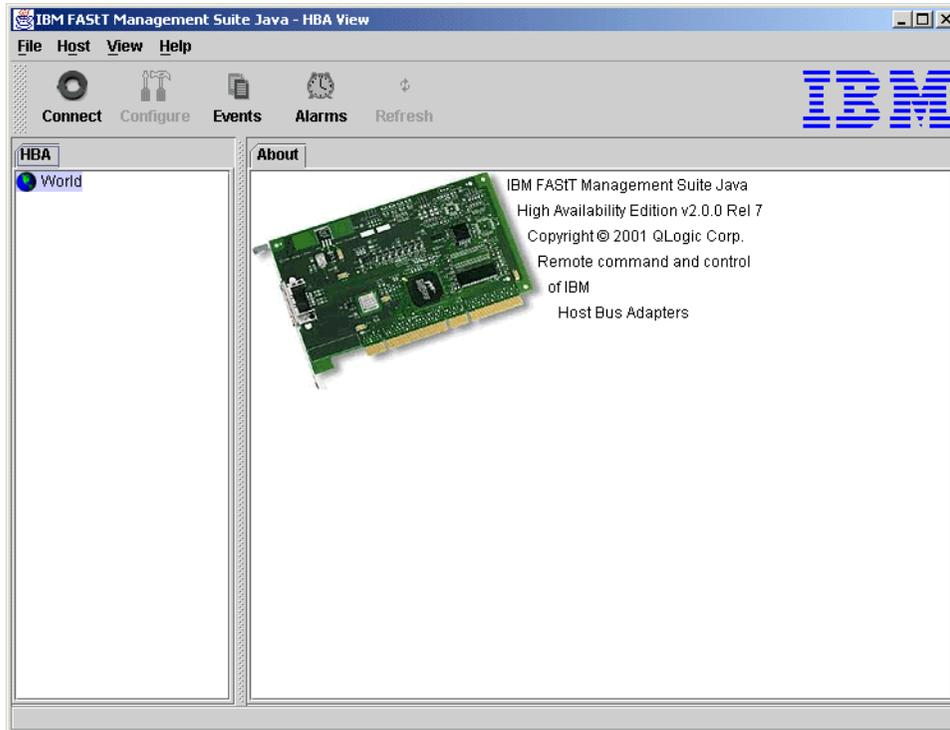

Figure B-2 IBM FASIT Management Suite Java - HBA View window
2. The IBM FAST Management Suite Java - HBA View window is displayed (see Figure B-2):